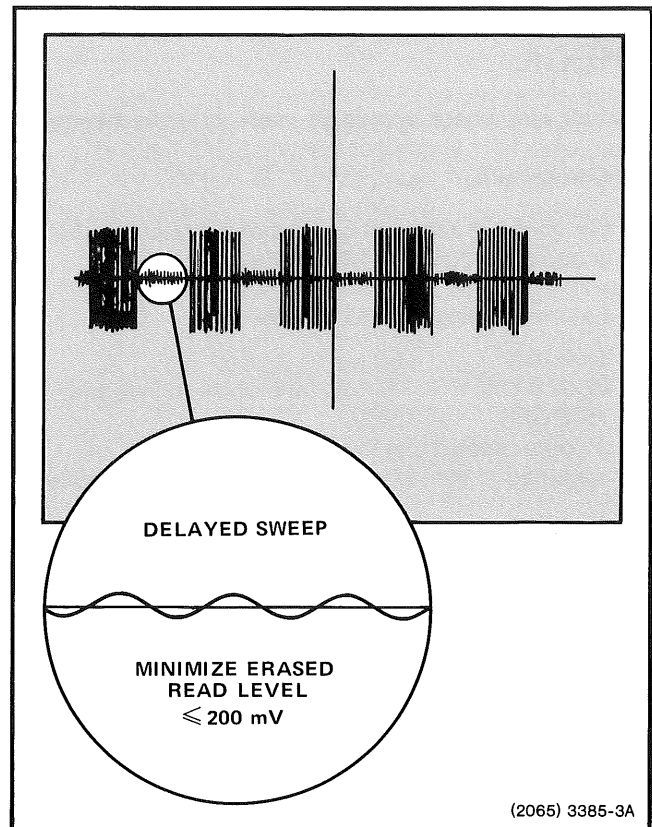

Figure 2-3. 4050 Series Tape Head Height Adjustment Waveforms.
- Head height is adjusted using the 5 kHz burst signal during the first minute of the Calibration Tape. Press AUTO LOAD and observe the oscilloscope pattern shown in Figure 2-3.